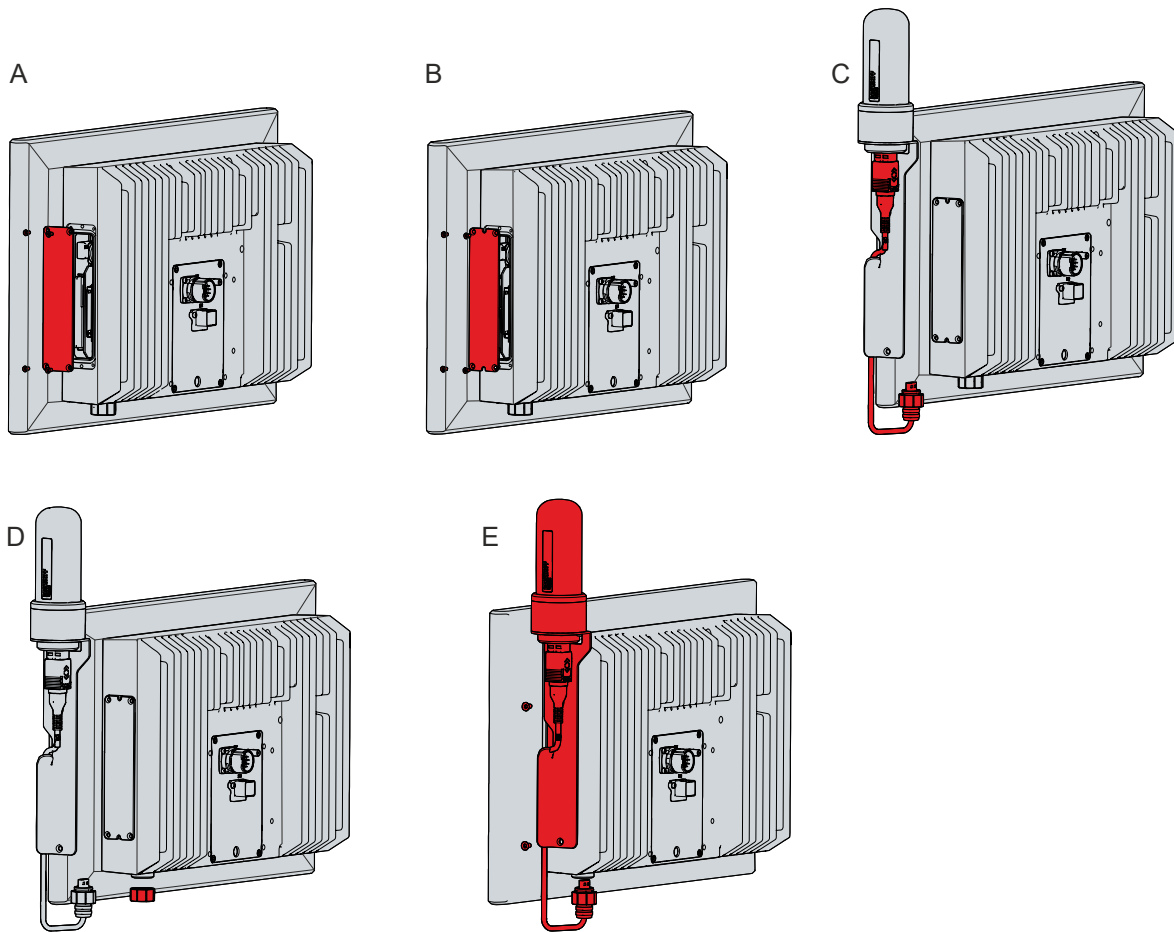

Fig. 30: CP32xx-1600\_Mounting cabinet dome
The handle (1) and the toolboard (2) are mounted on the underside of the Panel PC using three M5 screws. Three M5 threaded holes are provided for this purpose (see Fig. 30).